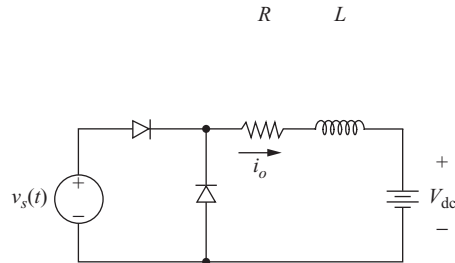

Figure P3-16
- 3-16.** The circuit of Fig. P3-16 is similar to the circuit of Fig. 3-7a except that a dc source has been added to the load. The circuit has $v_s(t) = 170 \sin(377t)$ V, $R = 10 \Omega$, and $V_{dc} = 24$ V. From the Fourier series, (a) determine the value of L such that the peak-to-peak variation in load current is no more than 1 A. (b) Determine the power absorbed by the dc source. (c) Determine the power absorbed by the resistor.